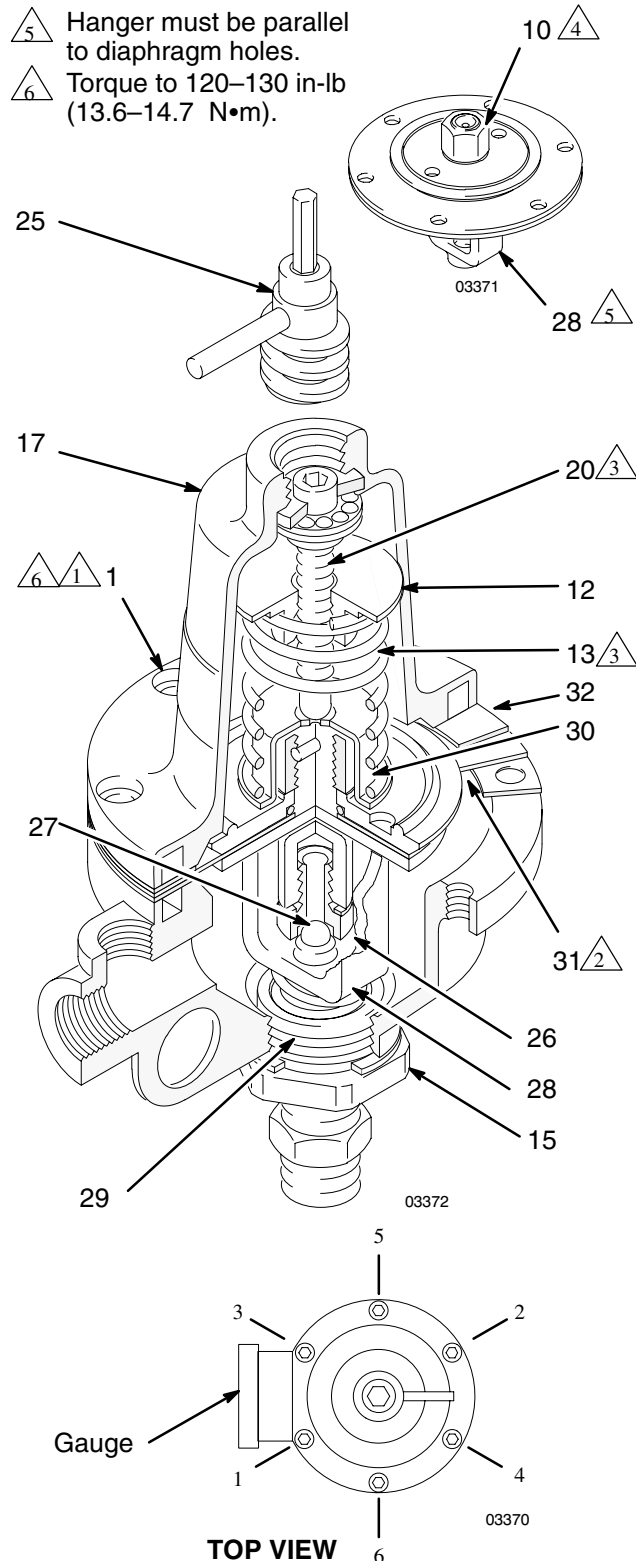

Fig. 3
Before installing the regulator, check the tightness of the screws (1). Refer to Fig. 3 for the tightening sequence and the torque value. If the regulator leaks during operation, check and torque the screws again.
1. Using the hex end of key (25), adjust screw (20) all the way counterclockwise to relieve regulator spring tension.
2. Remove outlet bushing (15) and counter-balance spring (29) (Model 204500 only) from the body.
3. Unscrew valve stem (27) from diaphragm hanger (28) with adjusting key. See Fig. 3.
4. Remove screws (1), regulator cap (17), spring adjusting screw (20), spring (13), and spring cap (30) (Model 204500 only).
5. Lift diaphragm (31) and hanger from body. Disassemble the hanger and diaphragm only if damaged.
6. Unscrew valve seat (26) from body with a 9/16" socket wrench. See Fig. 3.
The hanger should be in line with one set of holes and the nut should be torqued to 20 ft-lb (27 N•m). Turn the valve stem snugly against the seat and then back off 1/2 turn on model 204500 and 3/4 turn on other models to set valve clearance. When installing the cap (17), line up finger of spring adjusting nut (12) with the groove in the cap (17). Torque the six screws (1) evenly to 120–130 in-lb (13.6–14.7 N•m) three times consecutively, in the order shown in the **TOP VIEW**, to compensate for diaphragm relaxation. See Fig. 3.
- △1 See torque sequence in Fig. 3.